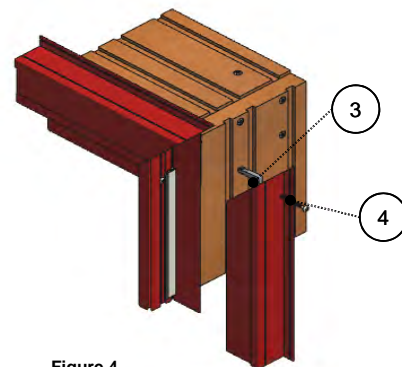

Figure 4
- d. Place corner key (3) into slot on end of brickmould and opposite end of head brickmould. (Figure 4)
- e. Apply a #6 x 3/4" panhead screw (4) through jamb brickmould into head brickmould. (Figure 4)